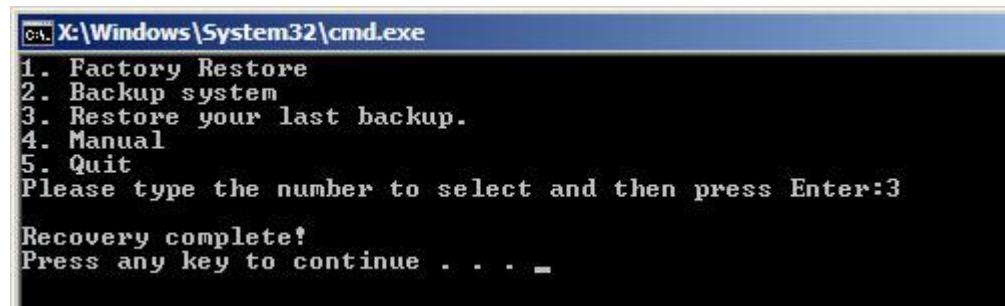

Figure B-32: Restore System Backup Complete Window
Step 9: The screen is shown as in **Figure B-32** when backup recovery is completed.